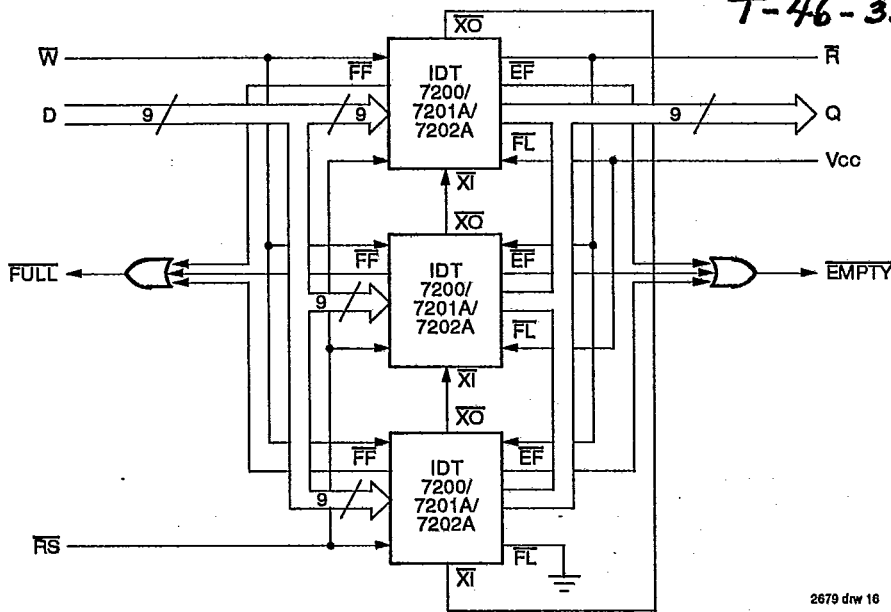

Figure 14. Block Diagram of 768 x 9/1536 x 9/3072 x 9 FIFO Memory (Depth Expansion)
The IDT7200/7201A/7202A can easily be adapted to applications when the requirements are for greater than 256/512/1024 words. Figure 14 demonstrates Depth Expansion using three IDT7200/7201A/7202As. Any depth can be attained by adding additional IDT7200/7201A/7202As. The IDT7200/7201A/7202A operates in the Depth Expansion mode when the following conditions are met:
3. The Expansion Out ( $\bar{X}O$ ) pin of each device must be tied to the Expansion In ( $\bar{X}I$ ) pin of the next device. See Figure 14.
4. External logic is needed to generate a composite Full Flag ( $\bar{FF}$ ) and Empty Flag ( $\bar{EF}$ ). This requires the ORing of all  $\bar{EF}$ s and ORing of all  $\bar{FF}$ s (i.e. all must be set to generate the correct composite  $\bar{FF}$  or  $\bar{EF}$ ). See Figure 14.
1. XI is connected to XI of previous device. See Figure 14. RS = Reset Input, FL/RT = First Load/Retransmit, EF = Empty Flag Output, FF = Flag Full Output, HF = Half-Full Flag Output
1. For depth expansion block see section on Depth Expansion and Figure 14.